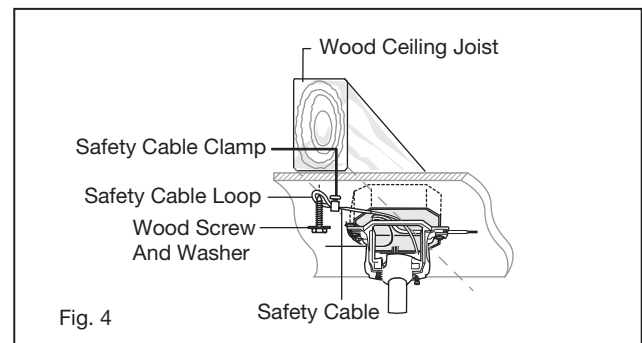

Fig. 4
- 3 Lift ball/downrod/fan into hanger bracket opening. **NOTE:** The tab opposite hanger bracket opening should fit in slot on ball. (Fig. 4)
- 2 Connect the black lead wires from the switch in the cradle A to the black wires in the switch box. Hot input wire to one of the cradle switch leads. Power lead to the fan is connected to the remaining switch lead. (Fig. 4)